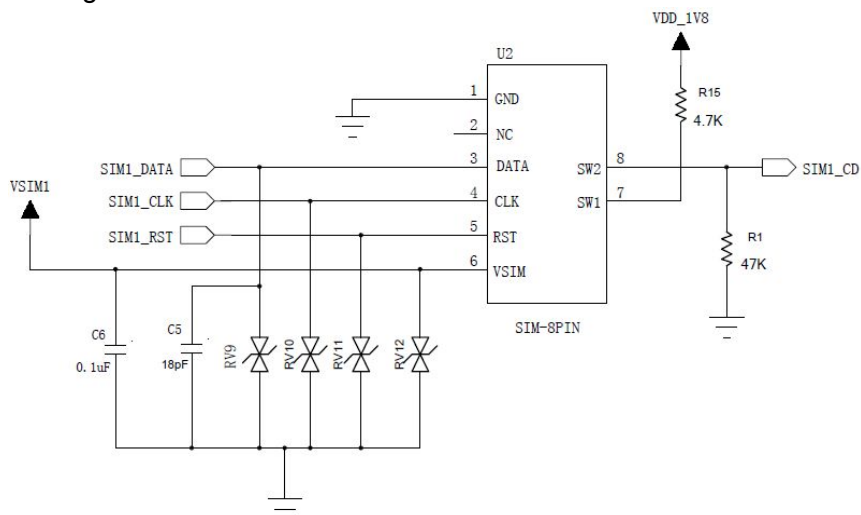

Figure 5-8 Reference Design of “Normally Open” SIM Card Interface
- For “Normally open” design, as shown in the figure5-8, the SIM1\_CD signal is connected to U2's Pin8